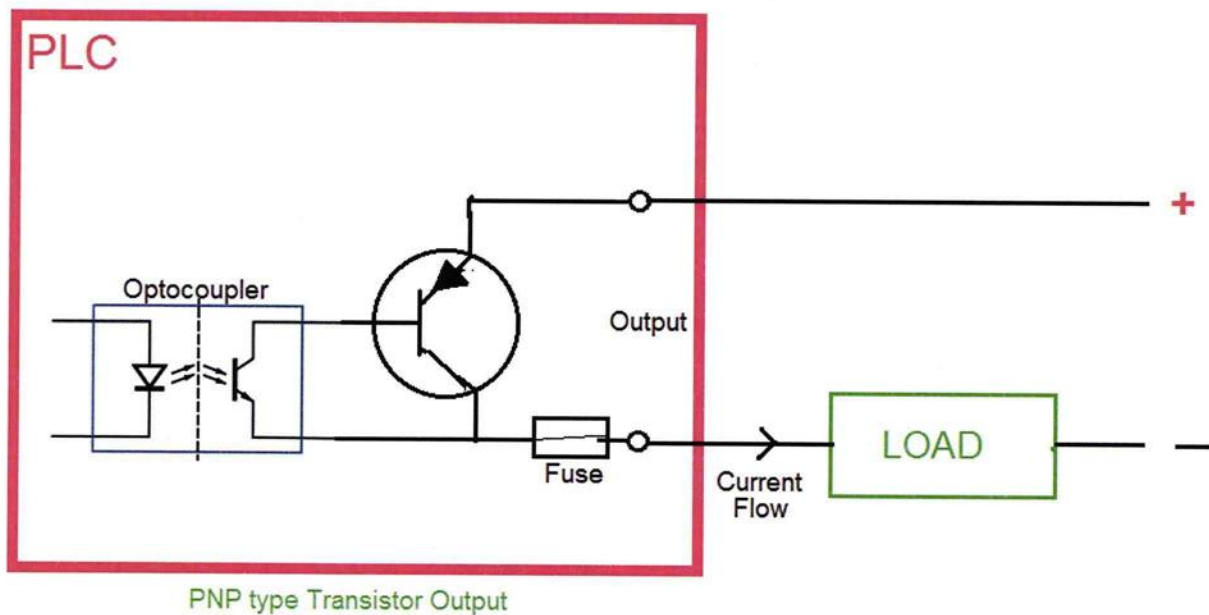

Figure 1: PLC output
7. Which PLC output type is shown in figure 1? 2
8. The digital PLC output shown in figure 1